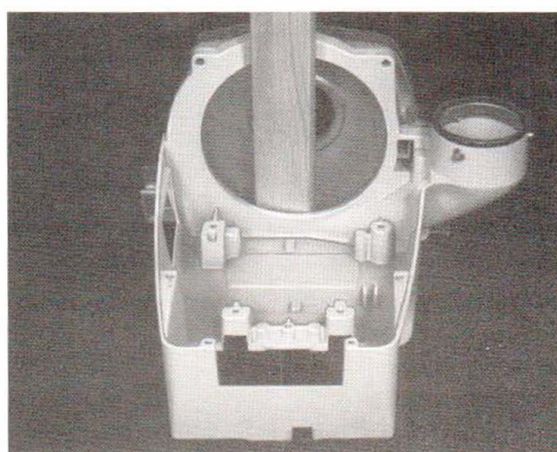

Figure 15. Fan Case Assembly and Wheel Shaft Main Assembly Removal (Two Methods)
3. See Figure 15. Using one of the two methods shown, break seal between fan case assembly and base sub-assembly and remove fan case assembly and attached components.